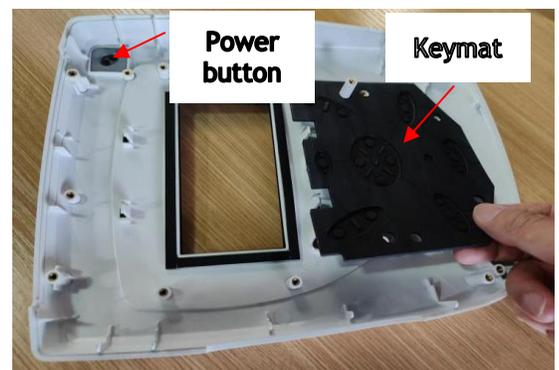

Figure 7.22
6. Lift out Keymat Assembly or On/Off Button. See Figure 7.22